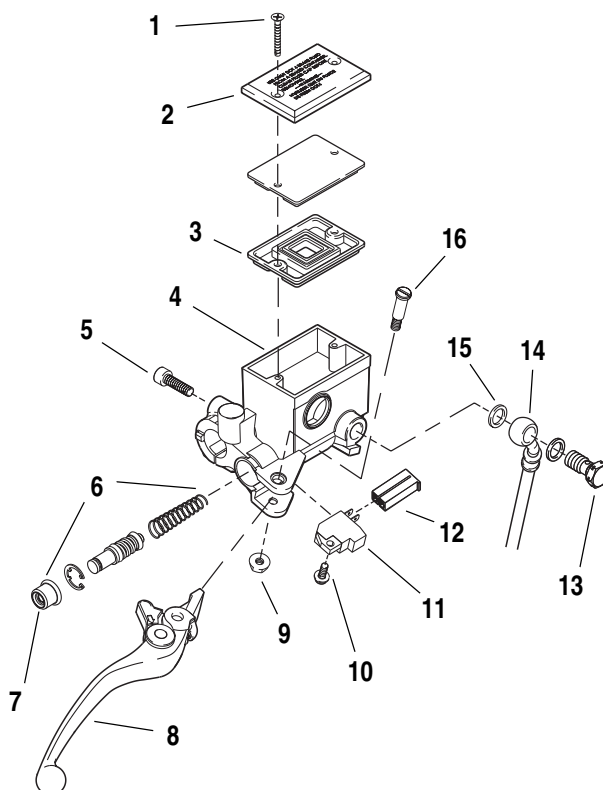

Figure 2-37. Front Brake Hand Lever Assembly
2. See Figure 2-37. Remove the banjo bolt (13) (metric) and two copper washers (15) to disconnect brake line (14) from master cylinder (4). Discard copper washers.
3. Unplug terminal (12) to detach brake lamp switch (11).
1. See Figure 2-37. Remove pivot bolt nut (9) (metric) and pivot bolt (16) from hand lever pivot.
2. Detach front brake hand lever assembly (8) from hand lever pivot.
3. Detach front brake lamp switch (11) by removing the switch fastener (10).
1. See Figure 2-37. Remove master cylinder cover (2) by removing cylinder cover fasteners (1).
3. Remove rubber boot (7) and discard.
5. See Figure 2-37. Remove piston assembly (6) from front master cylinder reservoir (4) and discard.
4. See Figure 2-37. Insert piston assembly (6), spring first, into master cylinder reservoir (4).
1. See Figure 2-37. Lubricate pivot bolt (16) with LOCTITE ANTI-SEIZE.
2. Align hole in hand lever (8) with hole in hand lever pivot and install pivot bolt (16) through top of hand lever pivot and tighten nut to 80-120 **in-lbs** (9-14 Nm).
1. See Figure 2-37. Install front brake lamp switch (11).
- a. Install brake lamp switch (11) with switch fastener (10) and tighten to 7-10 **in-lbs** (0.8-1.0 Nm).
- b. Connect brake switch terminal (12) to brake lamp switch (11).
3. See Figure 2-37. Connect brake line to master cylinder using two **new** copper washers (15) and banjo bolt (13) (metric) and tighten to 16-20 **ft-lbs** (22-27 Nm).
5. See Figure 2-37. Remove two master cylinder cover screws (1), cover (2) and cover gasket (3).
10. See Figure 2-37. Attach master cylinder cover (2) and cover gasket (3). Tighten two cover fasteners (1) to 9-13 **in-lbs** (1.0-1.5 Nm).
4. See Figure 2-37. Remove master cylinder banjo bolt (13) (metric) and two copper washers (15) to disconnect brake line from master cylinder (4). Discard copper washers.
1. See Figure 2-37. Connect brake line (14) to master cylinder (4) using two **new** copper washers (15) and a banjo bolt (13) (metric). Loosely install bolt into master cylinder.
- b. Finger tighten banjo bolt (5) onto front caliper being careful not to pinch wire form (3) while tightening, wire form should rotate around banjo bolt freely.
- c. Twist brake line (2) into wire form (3) spiral and clock wire form against bleeder valve (4).
5. Install and tighten p-clamp with fastener (1) on lower triple clamp to 36-60 in-lbs (4-7 Nm).
6. See Figure 2-37. Tighten master cylinder banjo bolt (13) (metric) to 16-20 ft-lbs (22-27 Nm).